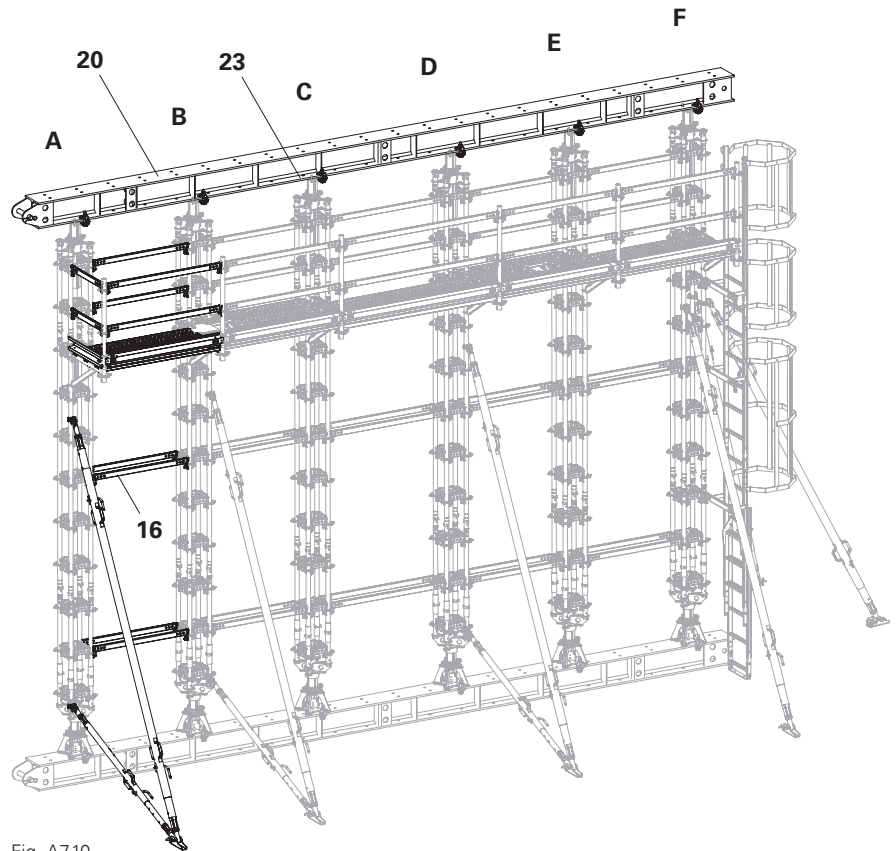

Fig. A7.10
1. Attach Heavy-Duty Props HD around Head Spindle TR (2) with round slings to prevent slipping and take up the load with the lifting device. (Fig. A7.10)
3. Only remove the horizontal ledgers (16) to which the heavy-duty prop being removed is directly connected.